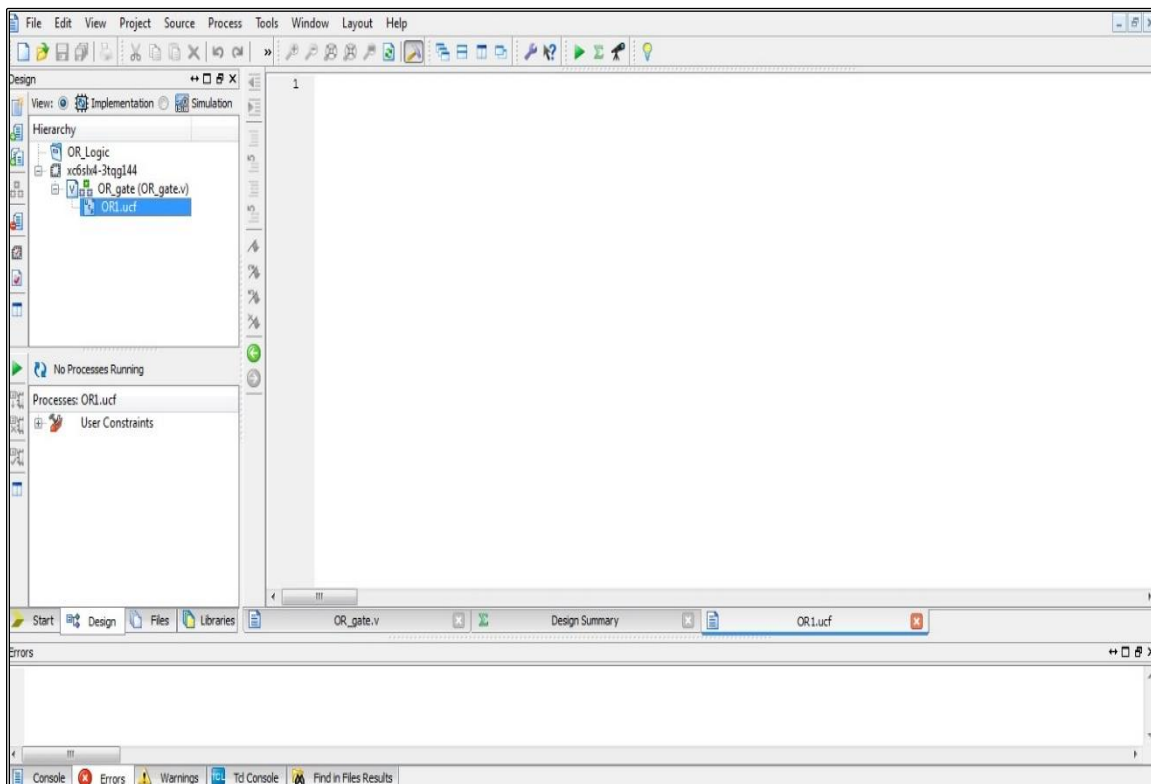

Fig 1.30: Blank UCF
29. A blank window will appear in a new tab having the design name with .ucf extension. Here the tab “OR1.ucf” is generated as shown in the Fig 1.30.